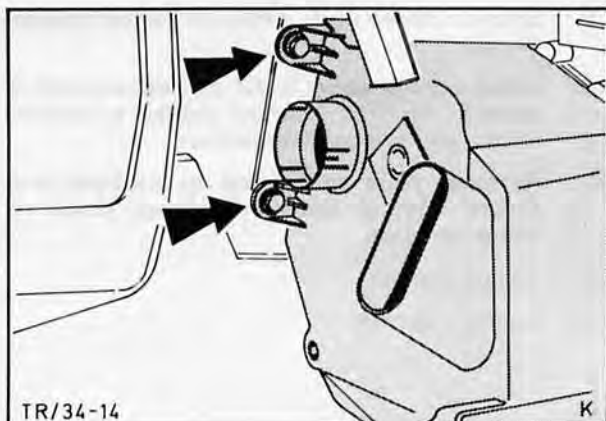

Fig. 15. Detach heater housing from bulkhead
6. Detach heater housing from bulkhead (4 bolts), Fig. 15, pull away slightly and disconnect cables from blower motor. Withdraw heater assembly and remove from vehicle.